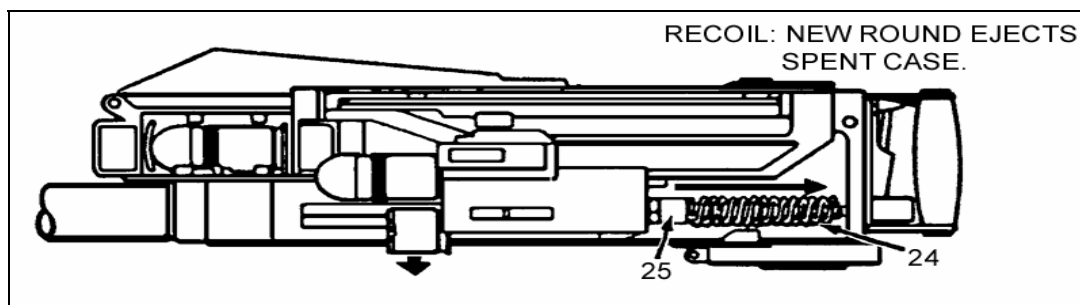

Figure 2-5. Blowback and automatic feed.
e. **Blowback and Automatic Feeding Cycle.** The gases from the burning powder force the bolt, with a new round in its extractors, to the rear. During this blowback, several things happen at once. First, the curved rail of the vertical cam delinks and forces down the new round on top of the spent case, which forces the spent case out of the bolt fingers and ejects it out the bottom of the gun. Next, the feed slide assembly pulls the rounds to the right in the receiver ammunition feed area, where a new round is ready to pick up (automatic feed). During the bolt's travel to the rear, the cocking lever is pushed forward, which cocks the firing pin. When the bolt reaches the limit of its rearward travel, the recoil springs (24) are completely compressed. The bolt buffers (25) absorb over-travel, reducing trunnion load (recoil force) at the gun-mount attaching points. The bolt sear will not engage the receiver sear if the trigger is still depressed, and another firing cycle occurs. Release of the trigger causes the bolt sear to engage the receiver sear, which prevents the bolt from going forward, and firing stops. See Figure 2-5.